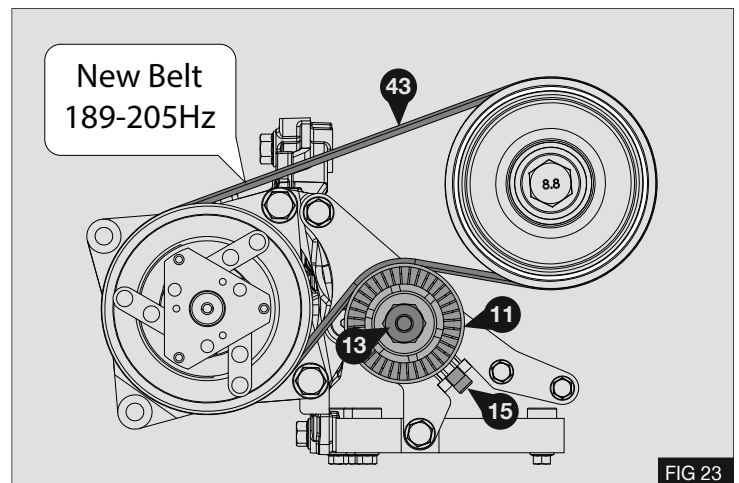

FIG 23
1. Fit the compressor drive belt (43). Tension the belt using the adjuster bolt (15) to the value specified. When the correct tension is achieved tighten the pulley nut (13). - Fig 23/24